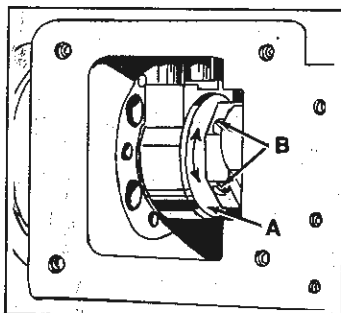

FIGURE 15
The timing of the spreader travel is determined by the position of the spreader drive eccentric (A, Fig. 15) on the crankshaft. To check the timing, rotate the handwheel so that the needle bar is at its highest point. Continue to rotate the handwheel until the needle bar has descended 1/8 inch (3.18 mm). The spreader should now begin to move to the right. To change the spreader timing, loosen screws (B), then advance or retard eccentric on the shaft as required. Tighten screws (B).